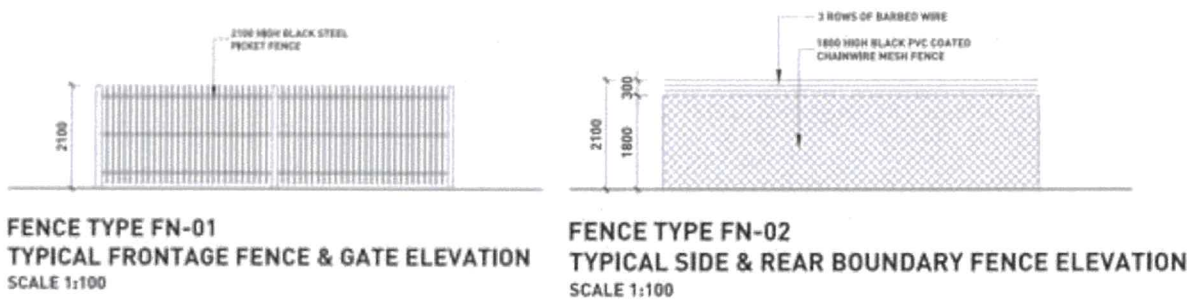

Figure 6: Typical Fencing Elevations
- Any fencing on a street frontage must be black powder coated steel picket fencing and must be a minimum height of 2100 mm as per Figure 6: Typical Fencing Elevation. Pickets must have a plain capped top and all gates must match the design of the fencing;
- Side and rear boundary fencing, if not designed to match the frontage fencing, must be black PVC coated chain wire mesh fencing and must be a minimum height of 1800 mm, with an optional 3 rows of barbed wire extending the fence height by 300 mm as per Figure 6: Typical Fencing Elevation;